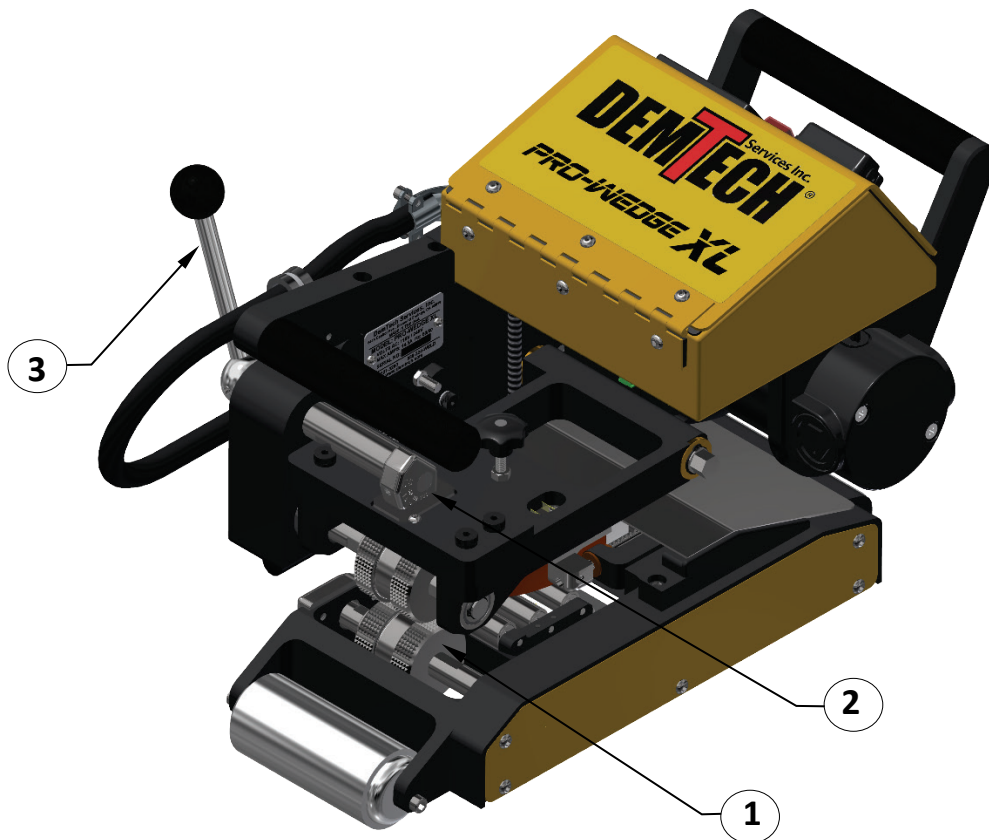

Figure 3
- c. Place two of the 1/2" X 6" material pieces, each folded in half, between the Nip Rollers (1) (see Figure 3). This procedure simulates two layers of material between the Rollers. Be sure these pieces do not extend past the Nip Rollers into the welder. Rotate the Nip Pressure Cam (2) (see Figure 3) to the corresponding mil thickness position indicated on the side of the Pressure Cam by rotating the Nip Pressure Cam Lever (3) (see Figure 3) clockwise.